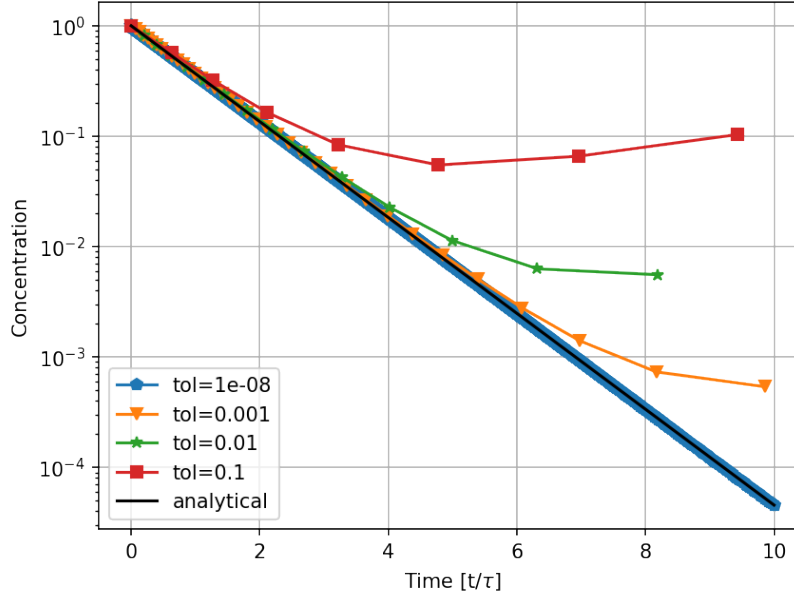

Figure 3: The concentration in the tank using adaptive Euler. Number of Euler steps are: 3006, 117, 48 and 36 for the different step sizes.
In figure 3 the result of the implementation is shown. Note that the number of steps for an accuracy of  $10^{-6}$  is only about 3000. Without knowing anything about the accuracy, we would have to assume that we needed a step size of the order of  $h$  in order to reach a local accuracy of  $h$  because of equation (12). In the current case, we would have needed  $10^7$  steps, which would lead to unnecessary long simulation times.